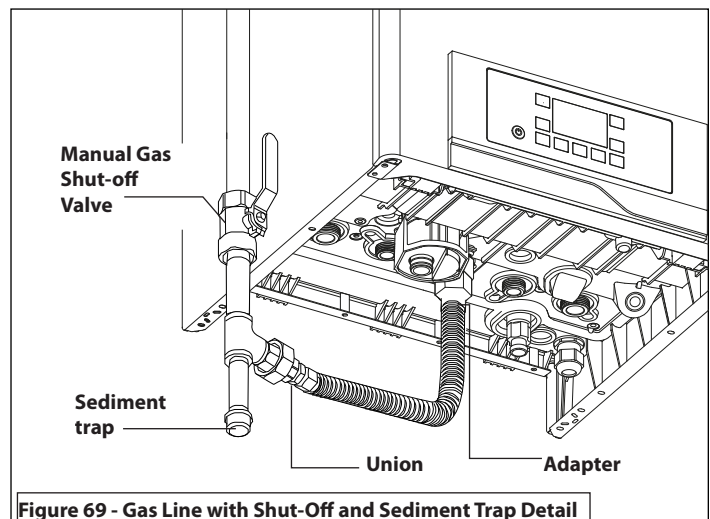

Figure 69 - Gas Line with Shut-Off and Sediment Trap Detail
subject to freezing conditions. See Figure 69.
- A manual gas shut-off valve should be installed in the gas supply line close to the boiler. See Figure 69.